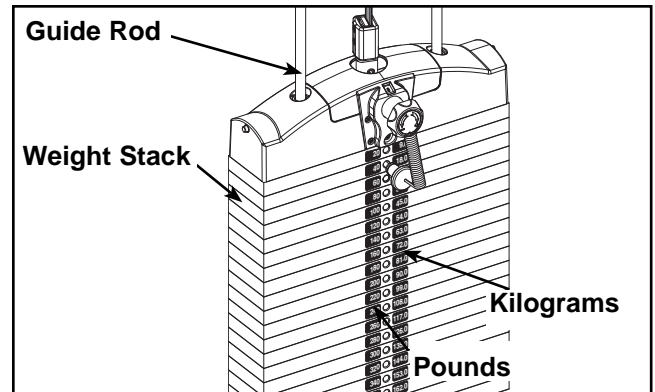

Figure 16
- E. Carefully remove front side, leaving decals adhering to weight plates. See Figure 16.